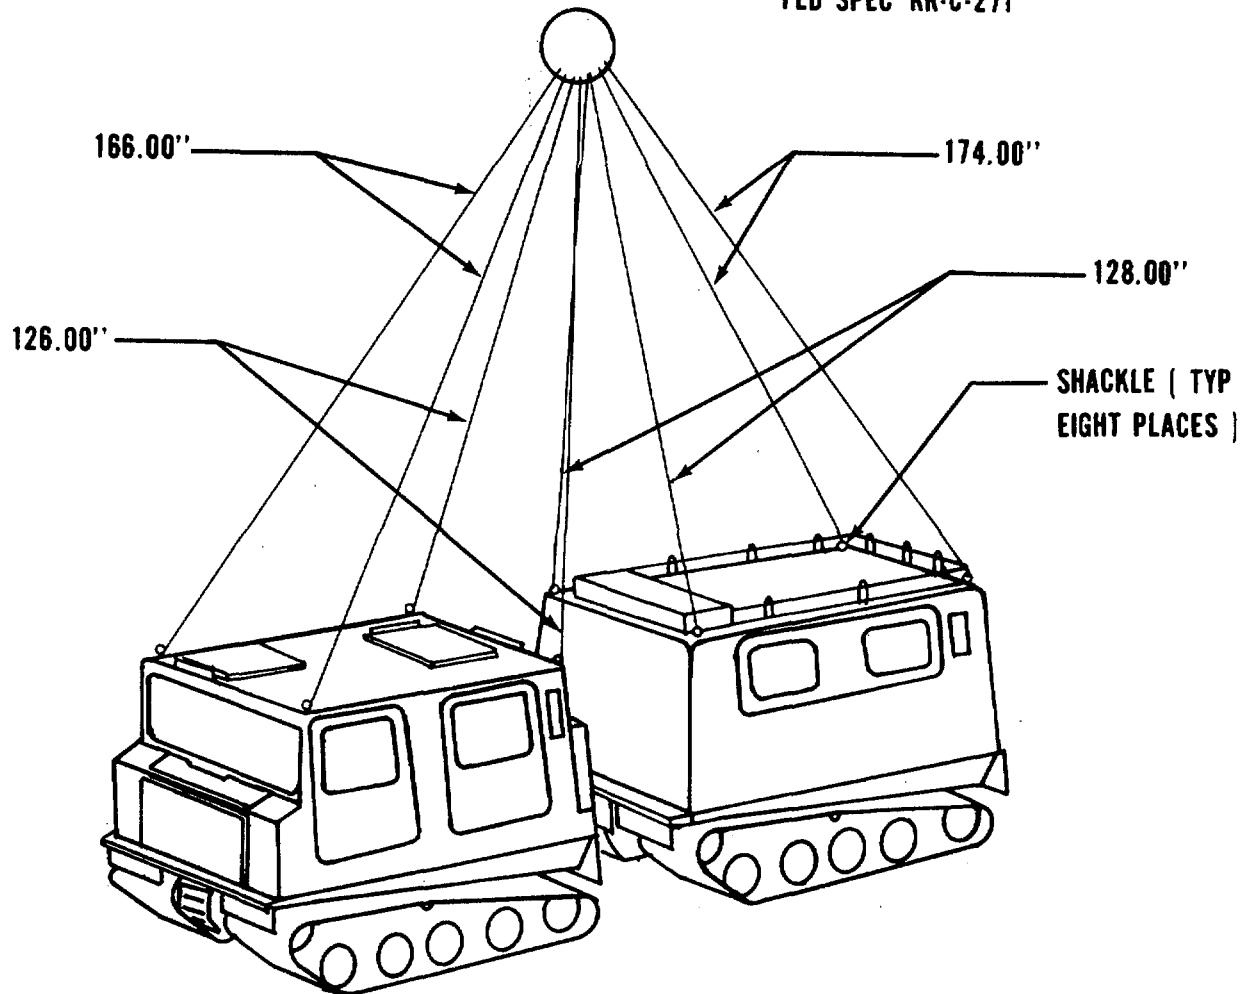

Figure 6-1. Lifting diagram for the M973, using an eight-legged sling.
- b. *Lifting.* Correct lifting points on the carriers are the lifting eyes located at the upper four corners of each car (total of eight). A typical lifting diagram is shown in figure 6-1.